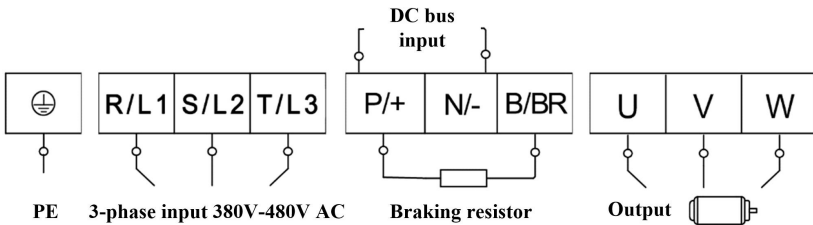

Fig 3-4 Power terminals sketch
- 3) Power terminals sketch of inverter with 3-phase 400V 0.75-15KW showed as below in Fig 3-4.